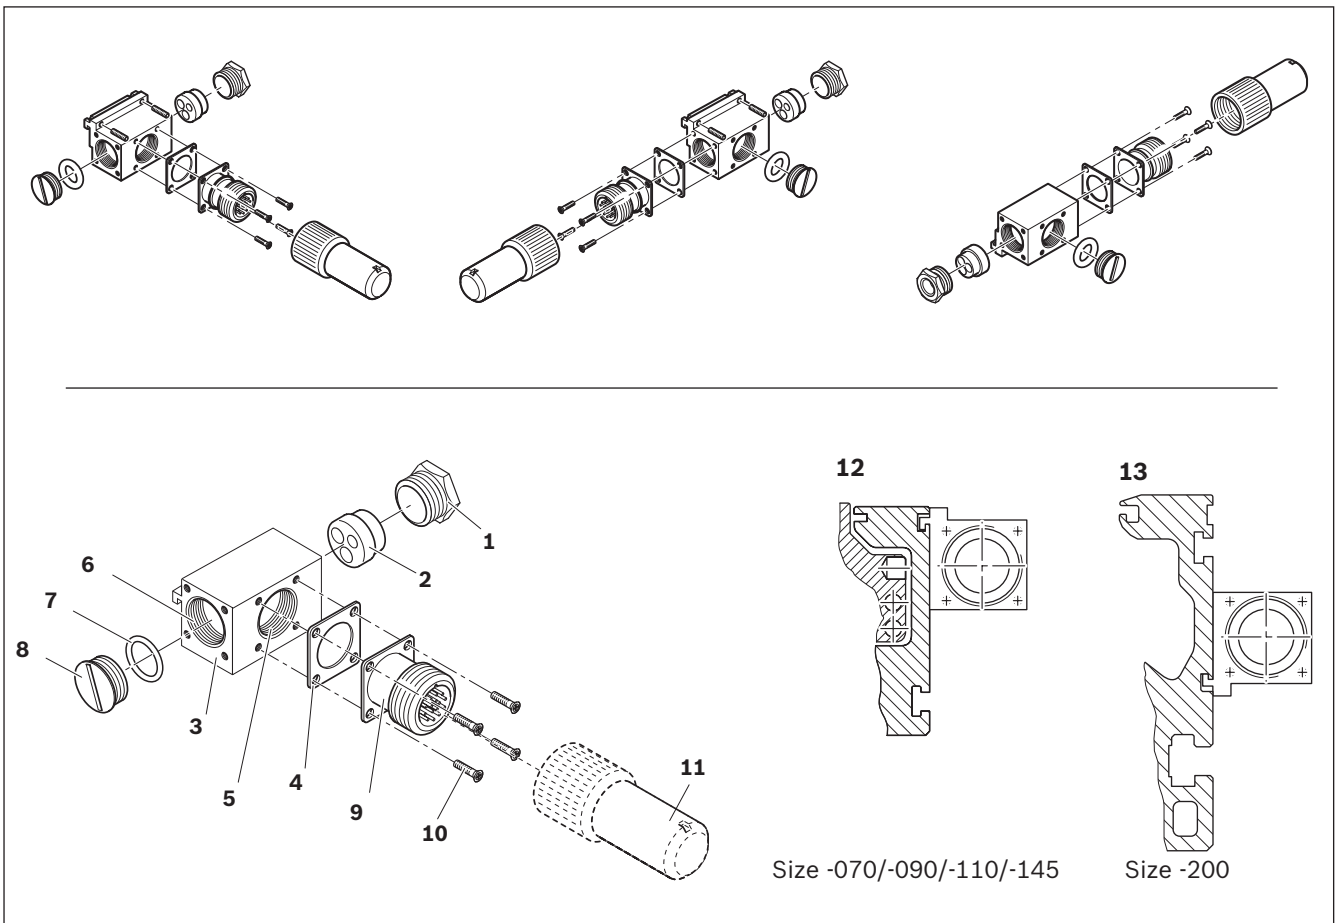

Fig. 7: Mounting the socket
► Switch activation is done by magnets in the carriage. Fig. 7 shows CKK; mounting for CKR is identical.